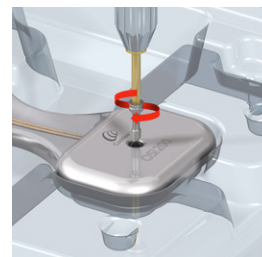

Fig.20: Attaching the fixation screw to the OSI200 Implant
6. Use the screwdriver unigrip 95 mm to pick up the fixation screw from the implant blister pack using minimal force. Carefully screw the fixation screw into the actuator until it is fully seated (Fig.20).